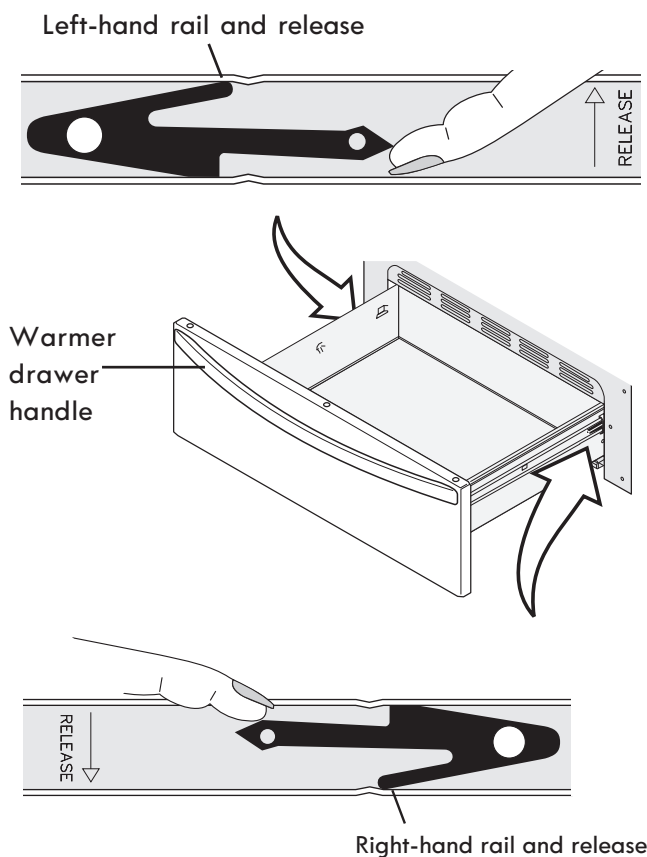

Figure 49: Removing the warmer drawer
3. On left warmer drawer rail, locate black release lever and press up with finger while pulling out slightly on the oven drawer handle. On right warmer drawer rail, locate black release lever and press down with finger while pulling out slightly on the warmer drawer handle (See Figure 49).